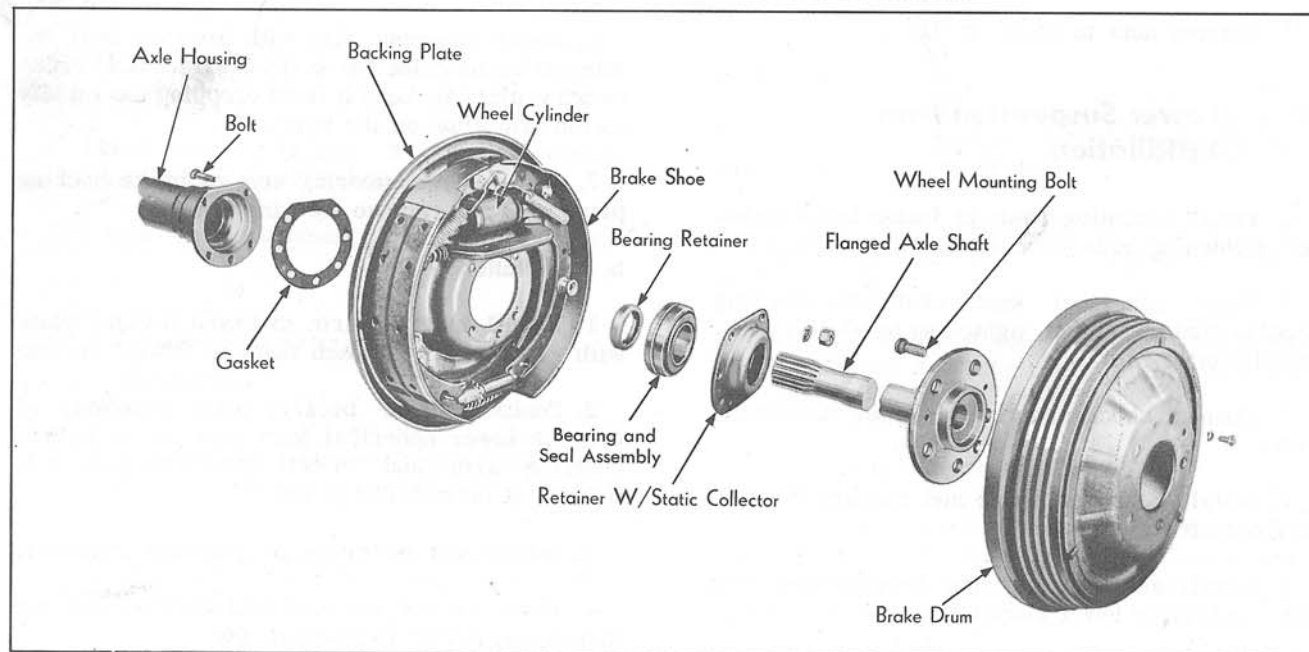

Fig. 4-14 Rear Wheel Disassembled
3. Remove screws holding brake drum to axle shaft flange, Fig. 4-14.